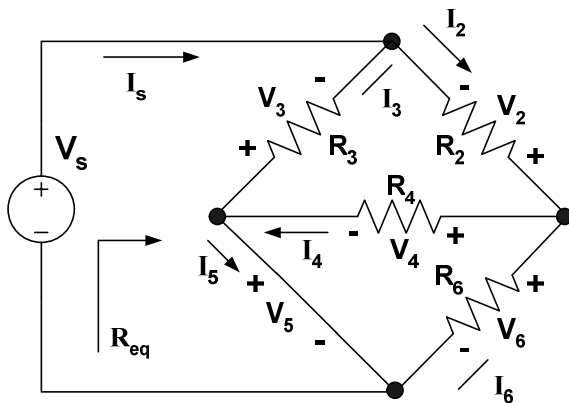

Figure 3: Series-parallel circuit I
1. Build the circuit given in Figure 3 on *Multisim Electronics Workbench*.
5. Build the circuit of Figure 3 with the hardwired components. Take the voltage current measurements and  $R_{eq}$  and record in Table 1. Considering the Workbench results as the base compute the percentage errors.
Table 1: Simulation and experimental results for Figure 3
Refer to Figure 3 and the results obtained in Table 1 and answer the following questions: